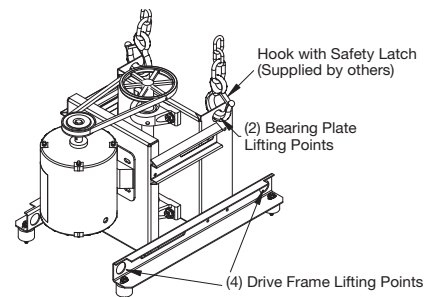
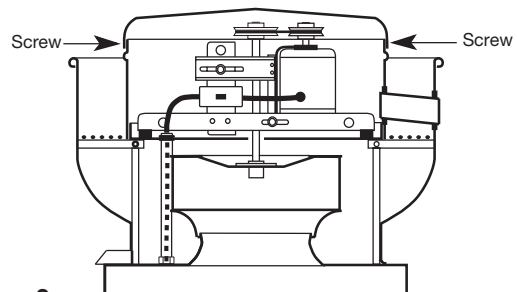

Figure 1
Figure 2
When lifting the unit onto the roof, use either the four lifting points on the drive frame or the two lifting points on the bearing plate if present, see Figure 1 for lifting points. Access to the drive frame is accomplished by removing the screws pointed out in Figure 2. The cover can then be removed and placed on a flat surface in an area protected from strong winds.
2. Remove motor cover. Access to the motor compartment is accomplished by removing the screws as shown in Figure 2, page 2. The cover can then be removed and placed on a flat surface in an area protected from strong winds.
3. On the drive frame use the lifting lugs to lift and place the unit on top of roof curb. Refer to Figure 1, page 2.